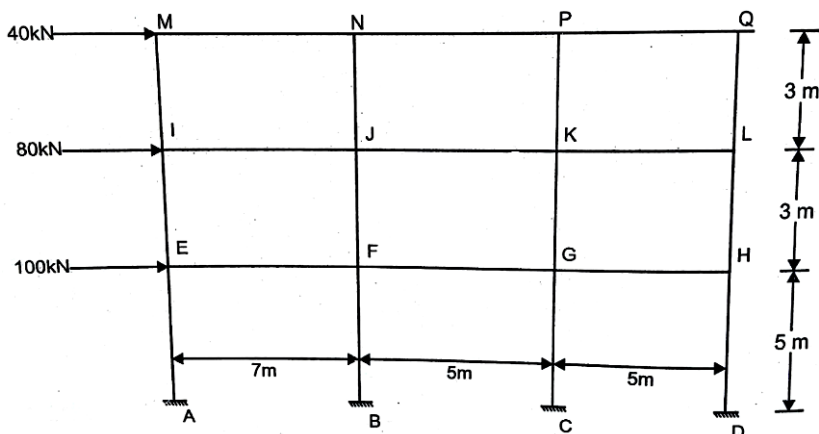

Figure 2.5
6. A 3 storey building frame has to carry equivalent live loads as shown in Figure 2.5. The inner columns have twice the area of cross section as the outer columns. Find the bending moments on the bottom storey. Use cantilever method.